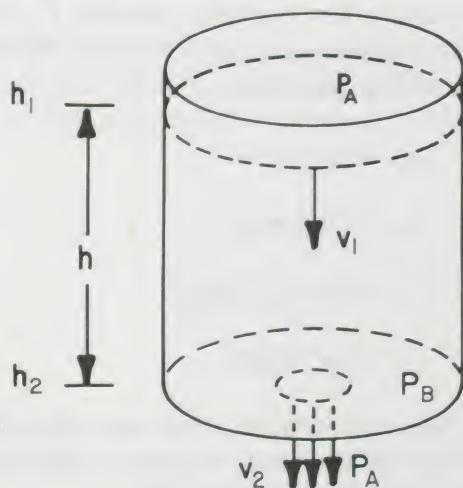
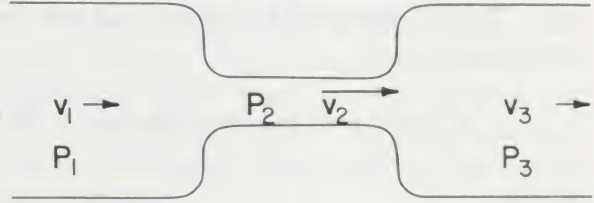

Figure 34.
Figure 35.
Figure 34 shows a tank of water with an outlet at the bottom. Water leaves the bottom at a speed v_2 and at atmospheric pressure P_A . As you know, the greater the depth of the water, the faster it flows from the outlet. We seek first a mathematical expression for the dependence of the water velocity on its depth. Such an expression can be obtained by applying the principle of conservation of mechanical energy, but to do so we must make a number of simplifying assumptions. For example, we shall assume that there is no friction and that the flow is perfectly smooth (*laminar*).
Returning to the container of Figure 34, there is another way of looking at the situation. Certainly, it is the pressure which causes the water to be pushed out of the bottom. The surface of the water is at atmospheric pressure P_A . The difference between this and the pressure in the water at the bottom of the container P_B is
liquid, nor does P_2 have to be atmospheric pressure. Although Equation (19) was derived for the situation shown in Figure 34, it is also true for the situation shown in Figure 35, where three different regions are involved.